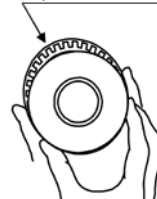

Fig. 2 Removal of piston seal
③5 Piston seal: Remove the piston seal. (Fig. 2)
④2 Cylinder tube gasket: Insert a watchmakers screw driver to pull out the seal.